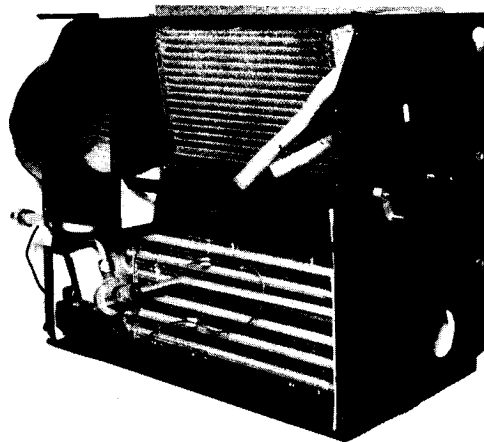

FIGURE 1
2. With the assembly out on the bench, remove the front cover and carefully remove the grommet from around the heater core pipes (Figure 1).